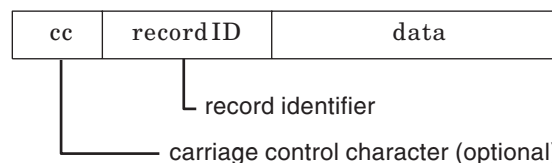

Figure 32. Record Format Line Data Record
A type of line data that is supported by PSF and formatted by a page definition is record format line data. With this format, each data record contains a record identifier, which selects the record descriptor (RCD) in a record format page definition that is used to format the line data, and might contain a carriage control (CC) byte. Record identifiers are 1–250 bytes. However, within a data map, all record identifiers must be the same length. You can use blanks to make the record identifiers the required length. Figure 32 shows the form of record format line data: